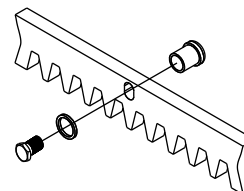

Fig. 6
5.2. Fix on each gear rack element the support pawls with the appropriate lock screws, make sure to put them in the upper part of the hole (Fig. 6);